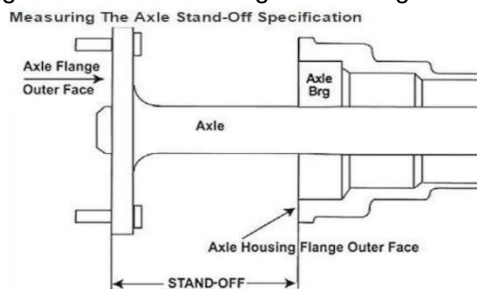

Figure 2: Axle standoff measurement
8. Measure the axle standoff for your vehicle, by taking the distance from the inboard face of the base bracket to the mounting face of the axle flange. Refer Figure 2.